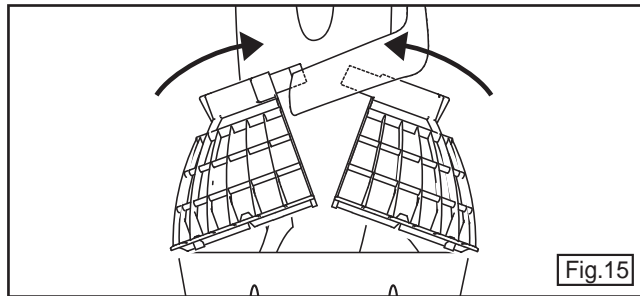

Fig.15
4. Unclip grille as shown in figure 15.